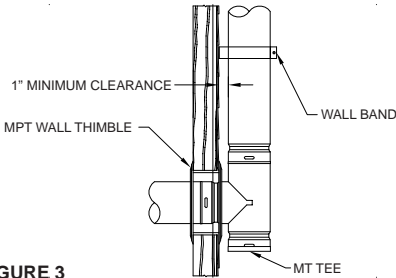

FIGURE 3
7. Although it is not a preferred practice, there may be installations where B-Vent must run vertically-exterior to the building-and wall support is needed. A wall band (MH) or (MWB) is used by placing around the B-Vent, then fastening to the wall. Using a wall band assures that the clearance to combustibles is maintained (See **FIGURE 3**).